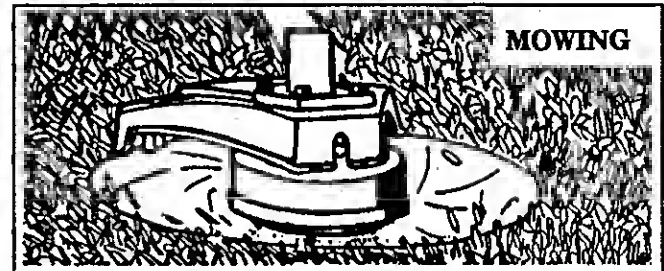

Figure 19
3. **MOWING**-Figure 19 . Your trimmer is ideal for mowing in places conventional lawn mowers cannot reach. In the mowing position, keep the line parallel to the ground. Avoid pressing the head into the ground as this can scalp the ground and damage the tool.